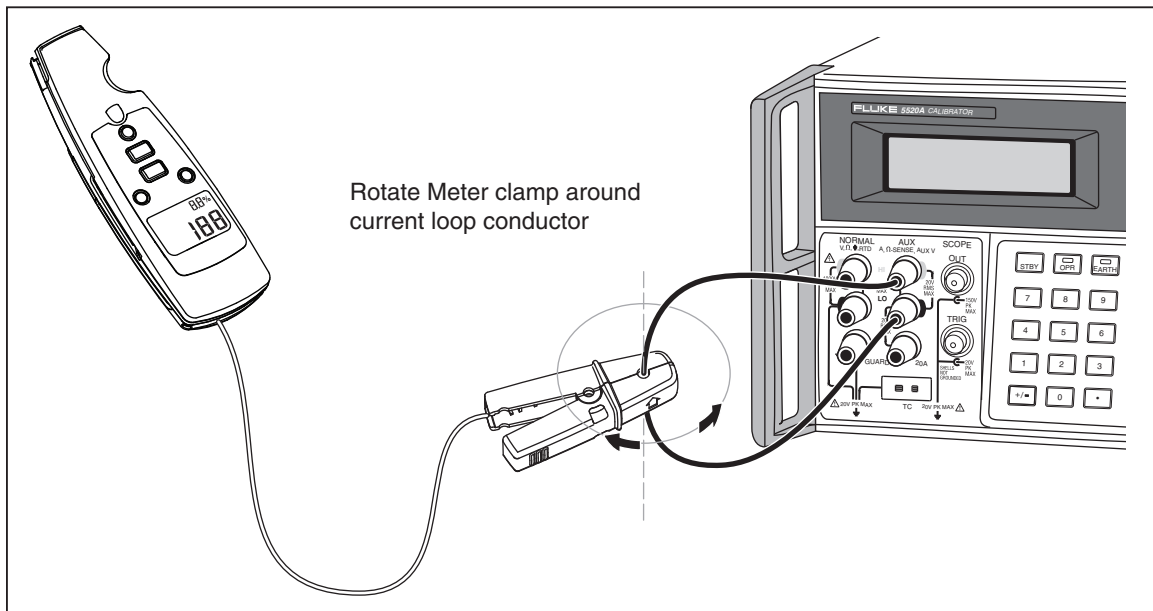

Figure 5. Phase Adjustment
5. Rotate the Meter's clamp around the current loop conductor and record the minimum and maximum values of the Meter's display reading. See Figure 5.